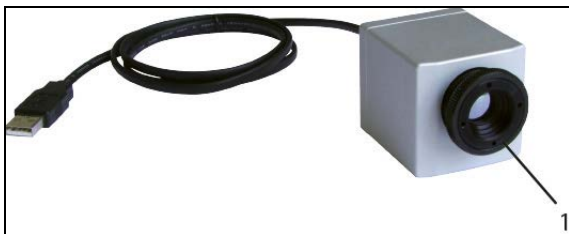

Figure 3: Focusing of the lens
- Make sure that the focus of the infrared camera is adjusted correctly. For focusing turn the lens (**Figure 3**).